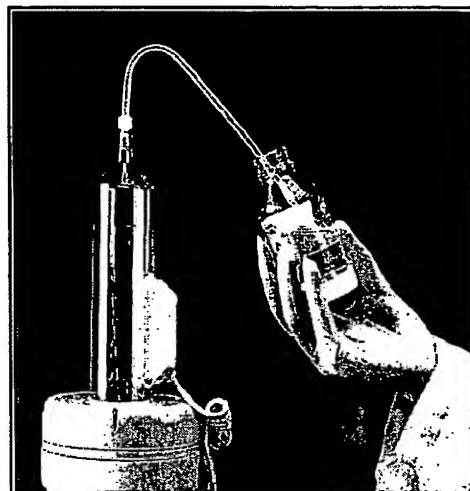

Figure 2.12 J-Tube and Contrast Bottle
2. Attach the short end of the supplied J-tube to the open end of the syringe (Figure 2.12).
3. Insert the other end of the J-tube into the bottle of contrast media (Figure 2.12).